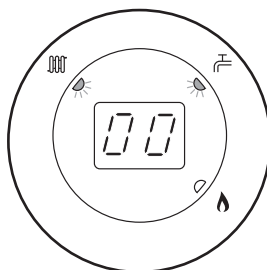
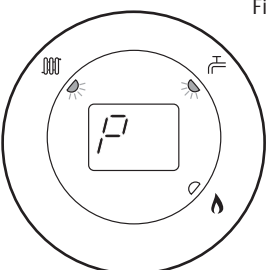

Fig. 65
Fig. 66
5. Turn CH temperature control knob fully clockwise. As the knob is turned the display will change from '0' to '00' (Fig. 65) indicating maximum rate, then revert to 'P' alternating with the current boiler temperature (Figs 66 & 67).